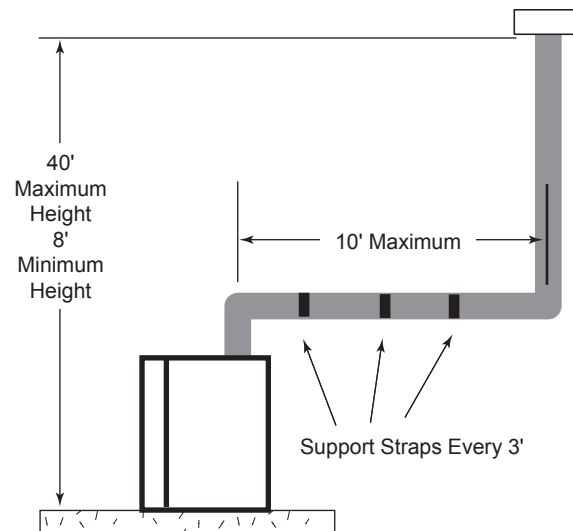

Figure 30 -
- Vertical installations up to 40' (12m) in height. Up to a 10' (3m) horizontal vent run can be installed within the vent system using a maximum of two 90° elbows. *Figure 30*